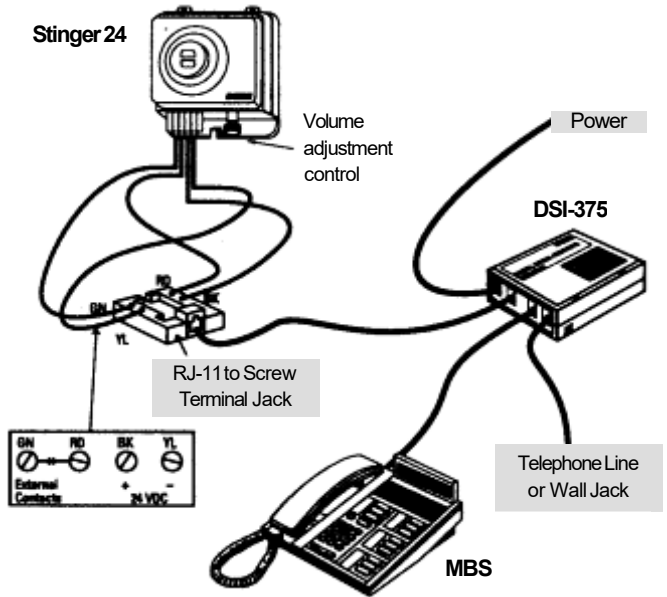

Fig. 5
4. Connect the Stinger 24 to the connecting block making sure that the wires are: GN to GN, RD to RD, YL to YL, and BK to BK as shown in Fig. 5.